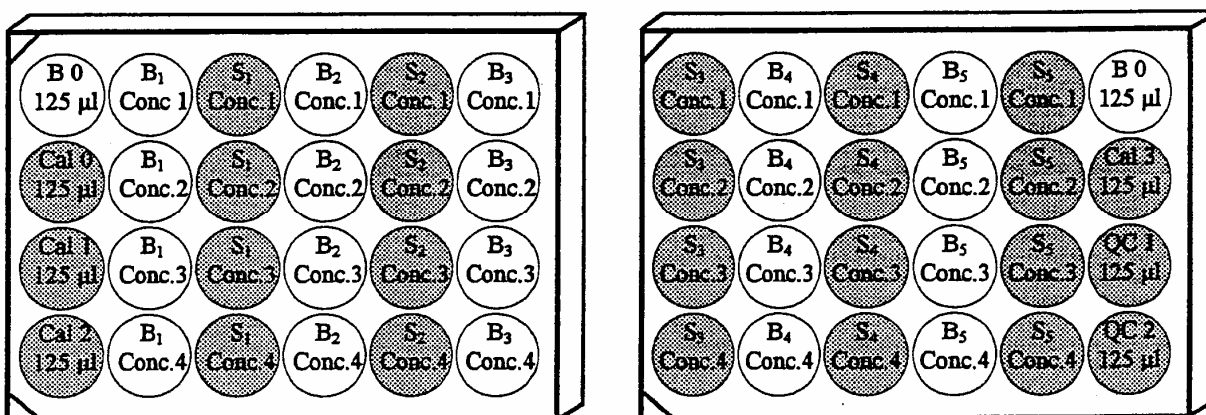

Figure 3.13. Suggested Plate Configuration: Analysis of Five Samples at Four Different Concentrations
1. Align the assay plates with the notched corners toward the left and label their lids. A typical plate configuration that has been employed to evaluate five different samples at four different concentrations is shown in Figure 3.13 on the next page.